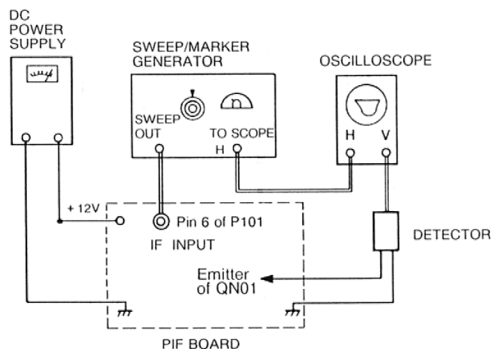

Figure 4.
- GENERAL Refer to figure 4 for the equipment connection.
- SWEEP/MARKER GENERATOR..... Connect to pin 6 of P101 on the PIF Board as shown in figure 4. Set to 30 to 40 MHz sweep with signal level of 75 to 85 dB μ .